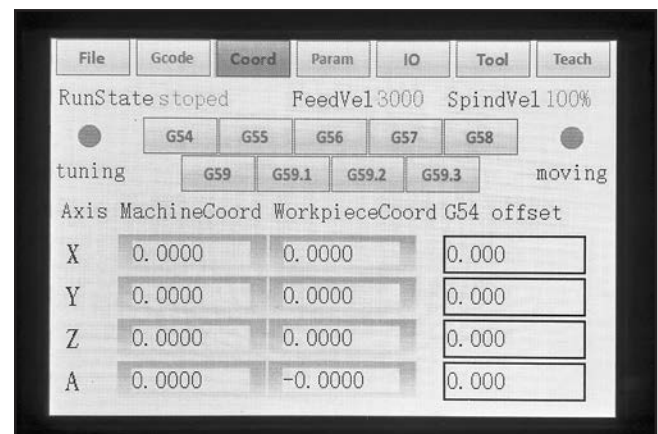

Figure 24. Example of DSP controller coordinate screen.
- After approximately 10 seconds, DSP controller will finish boot sequence and show coordinate screen (see **Figure 24**).